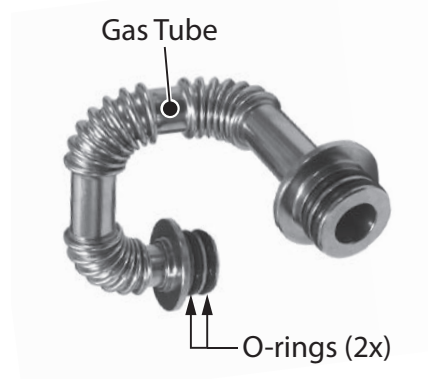

Figure 103 - Install venturi O-rings to gas tube
19 Locate the two (2) O-rings provided in the kit. Remove the two (2) old O-rings from gas tube (venturi mating side) and install the two (2) new O-rings as shown in Figure 103.